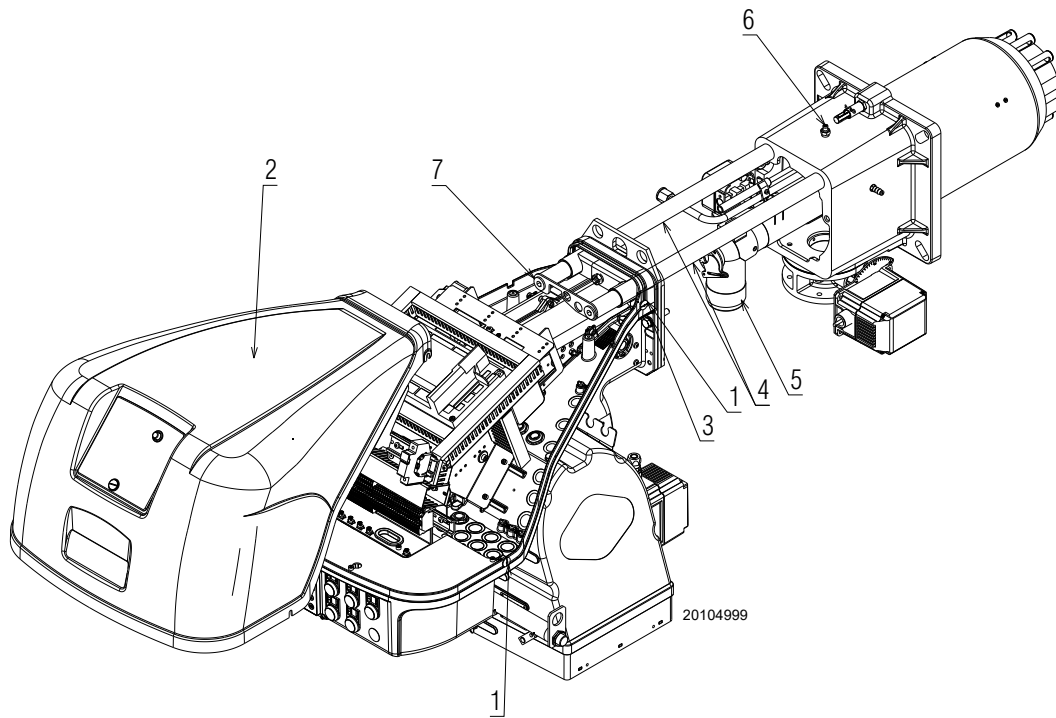

Fig. 38
Make sure that the gas outlet holes for the start-up, on the combustion head distributor, are free of dirt or rust deposits. If in doubt, disassemble the elbow (Fig. 38 at page 38).
- Loosen the 4 screws 1)(Fig. 38) and remove the hood 2);